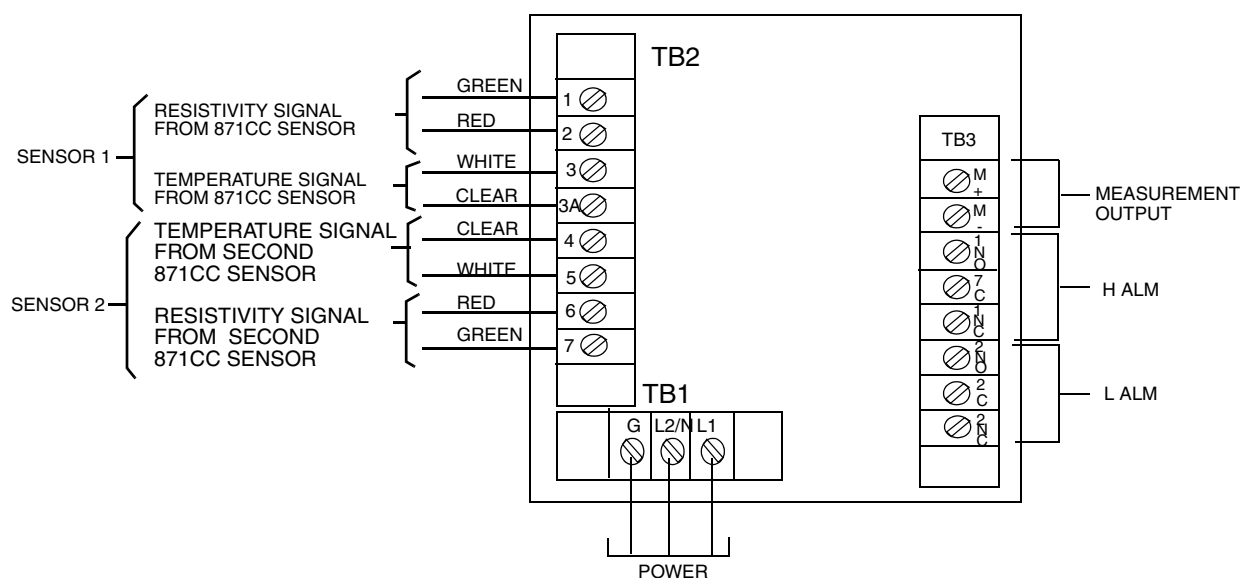

Figure 10. Plastic Enclosure Rear Panel Wiring
2. Connect H and L alarm wires to TB3 as shown in Figure 10. Failsafe operation requires connections be made between NC and C and the alarms be configured active. Refer to “General Information Alarms” on page 31.
3. Connect wires from external circuit for Analyzer measurement output to terminals TB3–1(+) and TB3–2(–). Refer to Figure 10.
5. Connect sensor wires to Analyzer terminal block (TB2) in accordance with Figure 10. If a single sensor is used with this Analyzer, it may be wired to either sensor input. See “CELL Display and Output Configuration (CELL)” on page 28, “H Alarm Configuration (HAC)” on page 33, and “L Alarm Configuration (LAC)” on page 37.
6. Connect power wires to terminal block TB1 as shown in Figure 10.